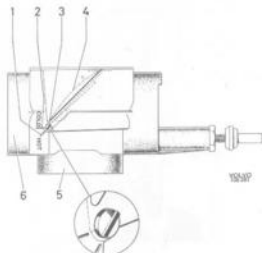

Fig. 2-140. Checking flap function
The flap location can be checked with the flap housing fitted in position. A small tab on the flap spindle projects from both sides of the housing (see 3, Fig. 2-140). The longitudinal pin for these tabs coincides with that of the spindle and turns parallel with the spindle. In other words, the location of the flap can be seen at different temperatures by comparing the angle of a tab in relation to the marks (1) and (2). Cold=open for cold air. Hot=open for warm air.